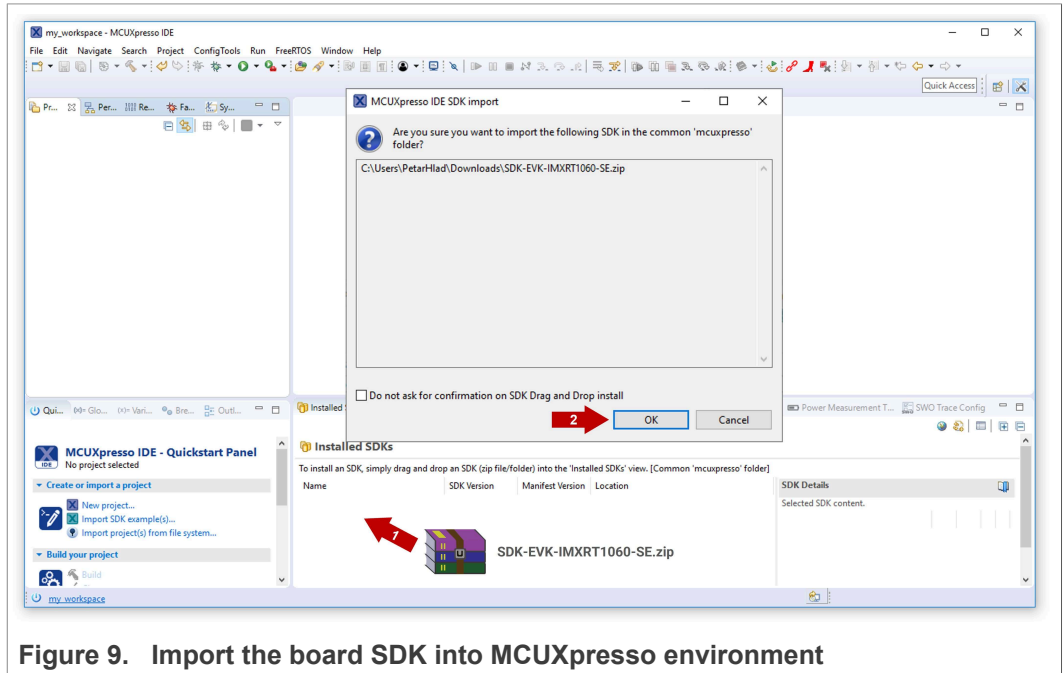

Figure 9. Import the board SDK into MCUXpresso environment
After downloading the SDK for your board, you need to install it in MCUXpresso. To install the SDK, (1) drag and drop the SDK zip file in the **Installed SDKs** section in the bottom part of the MCUXpresso IDE and (2) click **OK** as shown in Figure 9:
Note: If there is not an SE05x orange label on top of the board image, MCUXpresso may be recognizing a board SDK with a higher version number, downloaded from MCUXpresso SDK Builder website. To access the most up-to-date and complete list of EdgeLock SE05x project examples, first you need to uninstall the SDK currently installed, and then repeat the process indicated in Figure 9.